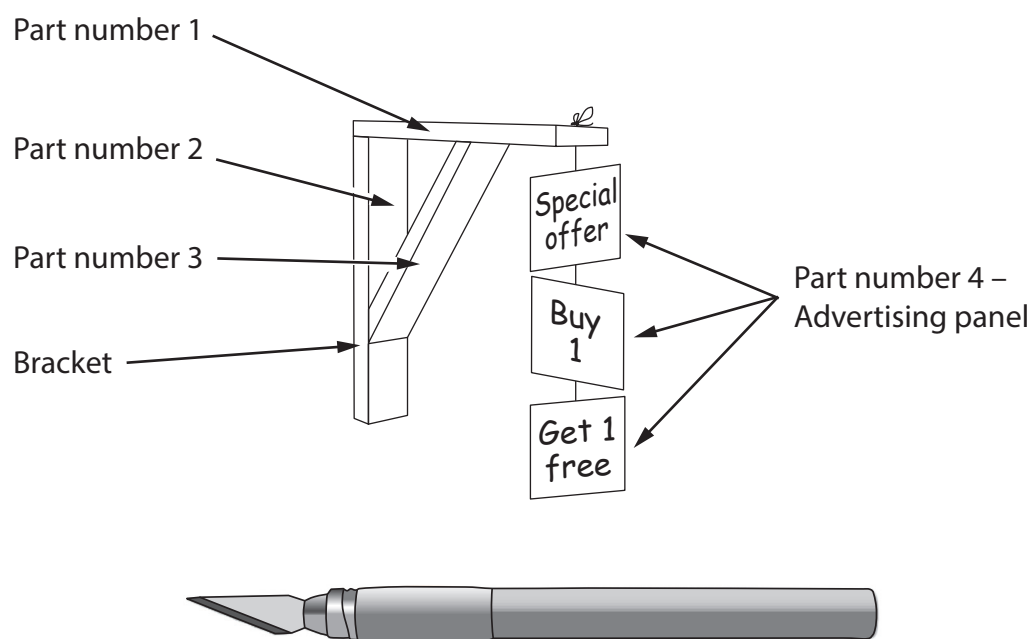

Figure 12
- 7 Figure 12 shows a wall-mounted advertising display and a hand tool that is used during its manufacture.
- (a) Name the specific type of hand tool shown in Figure 12.